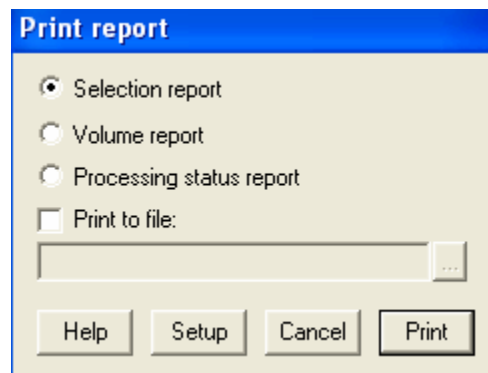

Figure 156: Annual Sample Report Dialog Box
9. To generate any annual sample report on demand press the "Reports" button to display the annual sample reports dialog box. This is shown in Figure 156: Annual Sample Report Dialog Box. Report details will be discussed later in this section.
As shown in Figure 156: Annual Sample Report Dialog Box, three reports are available: